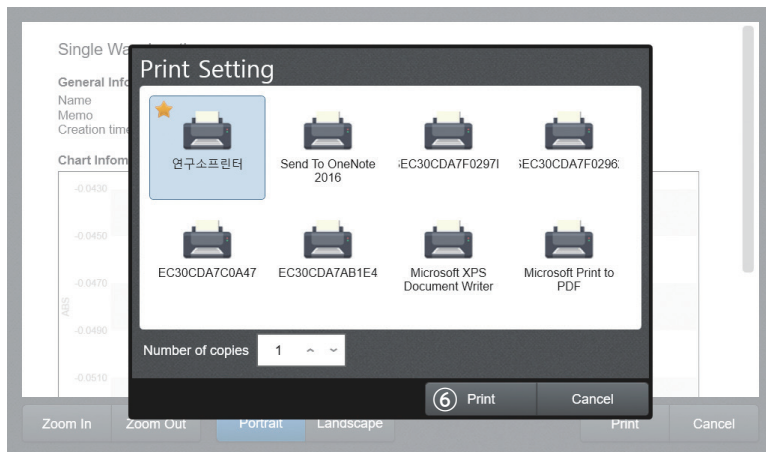

Fig. 2.16
11. [Fig. 2.16] Set the printer and number of pages to print on the printer settings screen.
12. [Fig. 2.16] Press the ⑥ **Print** button to start printing.